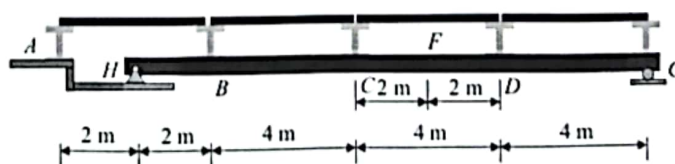

Fig. 9
8. a) Explain H-20 and HS-20 moving load with neat sketches. (10) 3
b) Draw the influence lines with ordinate for the following structure shown in Fig. 9 (30) 3 below and find the maximum values of the parameters due to 60 kN moving load:
(1) Vertical reactions at H & G. (ii) Shear at C & C-D panel. (iii) Moment at C-D panel.